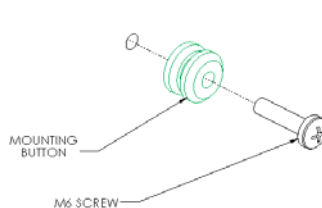
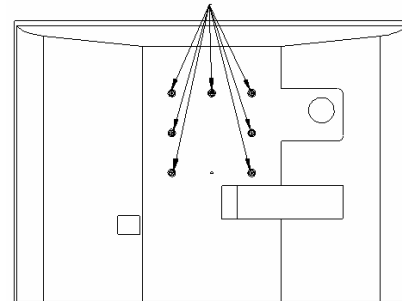

Figure 3
Figure 4
2. Using (6) M6 x 25mm Phillips Pan Head Screws, attach (6) mounting buttons to the side mounting holes in the display. Then, using (1) M6 x 20mm Button Head Cap Screw, attach (1) mounting button to the center top mounting hole (see Figure 3 & Figure 4).